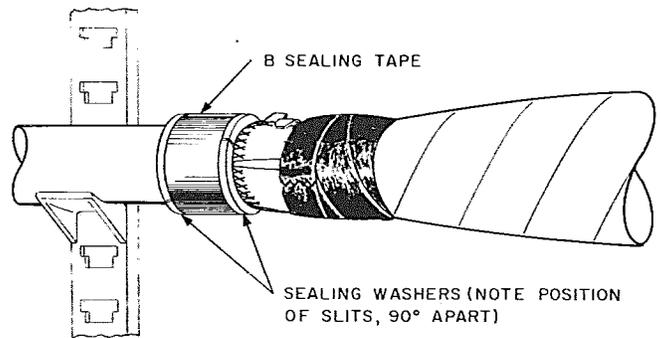

Fig. 21—Outer Sealing Washers Placed
3.20 Position the outer sealing washer with the slit about 90 degrees from that of the inner washer. Butt the outer washer against the sealing tape (Fig. 21).